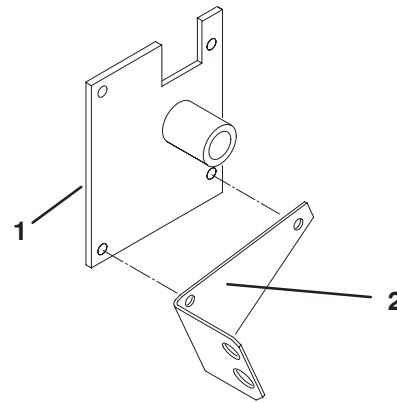

Figure 11
2. Secure the top of the right hopper mounting bracket to the right side of the machine with (2) 3/8–16 x 1” lg. capscrews and 3/8” lockwashers (Fig. 11). The notch in the bracket is to fit around the hood latch.
3. Secure the bottom of the bracket and coupler bracket to the frame with (2) 3/8–16 x 1” lg. capscrews and locknuts (Fig. 11).